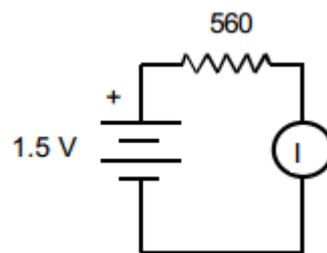

Figure 5
- Measure the actual value of one the resistors shown in Figure 5. (Throughout this course, always measure your resistor values before assembling the circuit.)
- Wire up the circuit in Figure 5. Set the function switch to the maximum current scale (2 A) and connect the meter into the circuit.